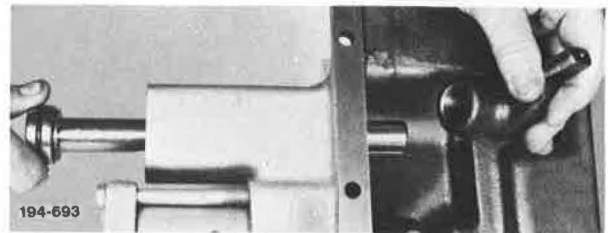

Figure 5-769. Removing Shift Rail and Shifter
5. Slide reverse shift rail rearward out of cover, and, as it moves, remove reverse shifter through bottom opening. See Figure 5-769.